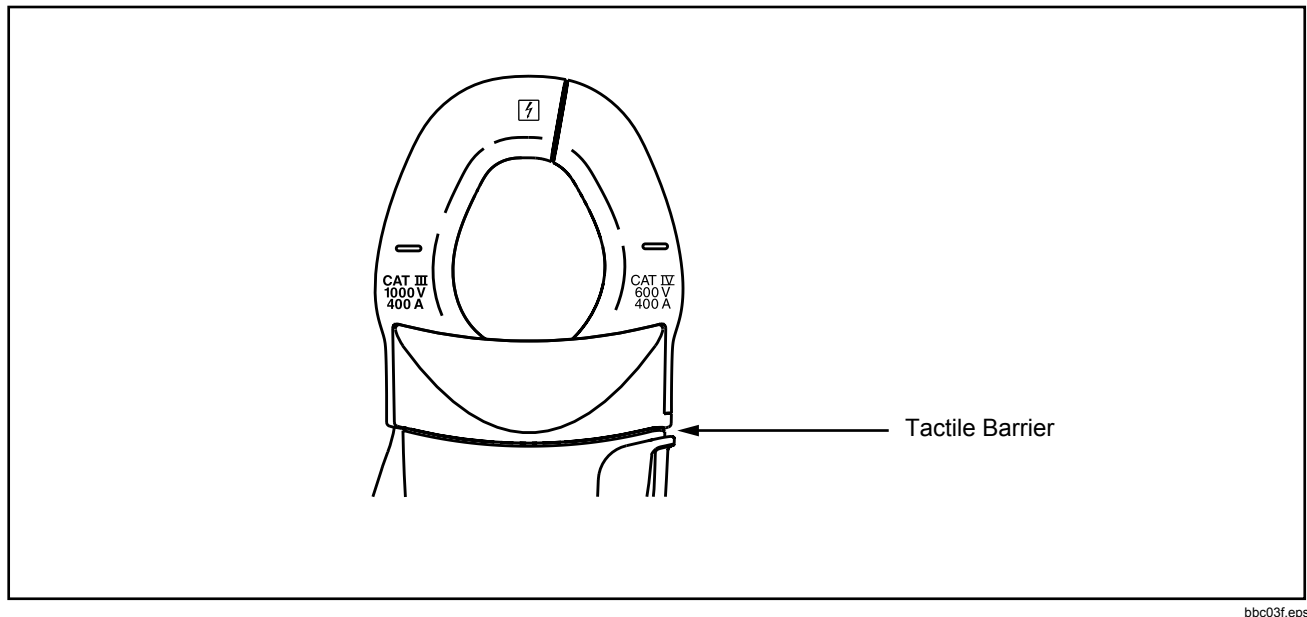

Figure 1. Tactile Barrier
- Do not hold the Current Clamp anywhere beyond the tactile barrier, see Figure 1.